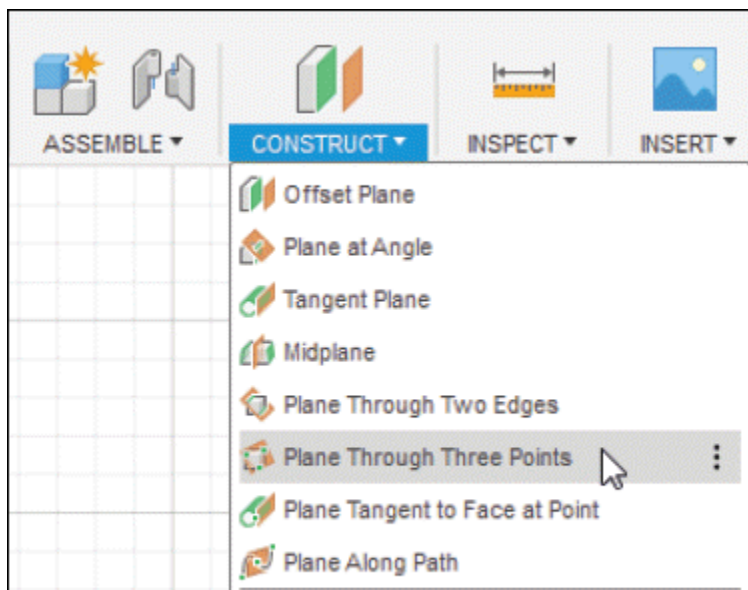
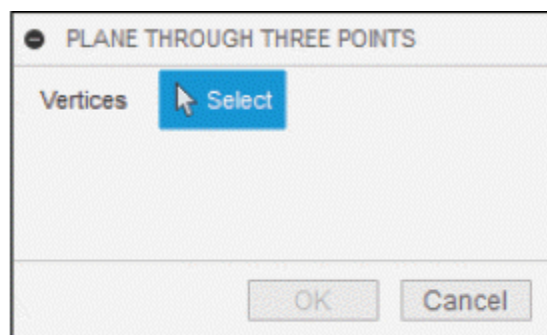

Figure-89. Plane Through Three Points tool
Figure-90. PLANE THROUGH THREE POINTS dialog box
- Click on the **Plane Through Three Points** tool of **CONSTRUCT** drop-down from **Toolbar**; refer to Figure-89. The **PLANE THROUGH THREE POINTS** dialog box will be displayed; refer to Figure-90.